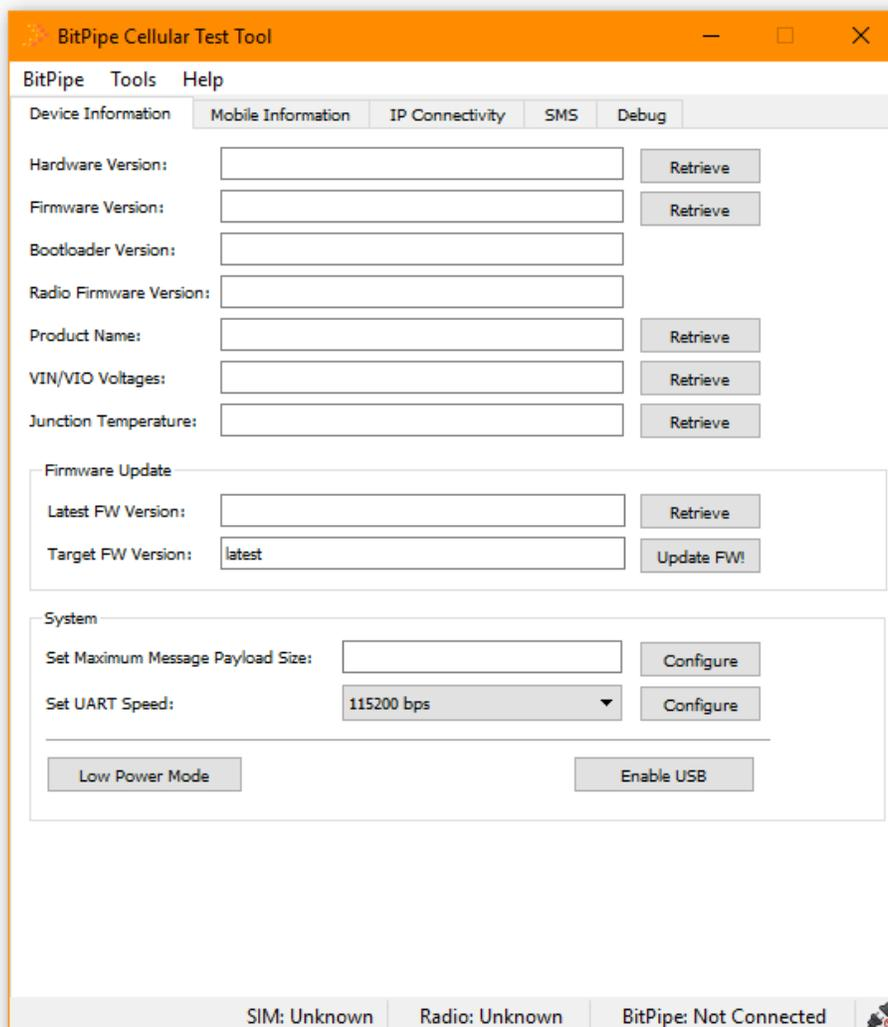

Figure 9: BitPipe™ Cellular Test Tool
1. Launch the “BP-C-TestTool.exe” application (Refer to section 7.1.1 if it has not been installed yet). Figure 9 contains a screenshot of the application when it is first open.